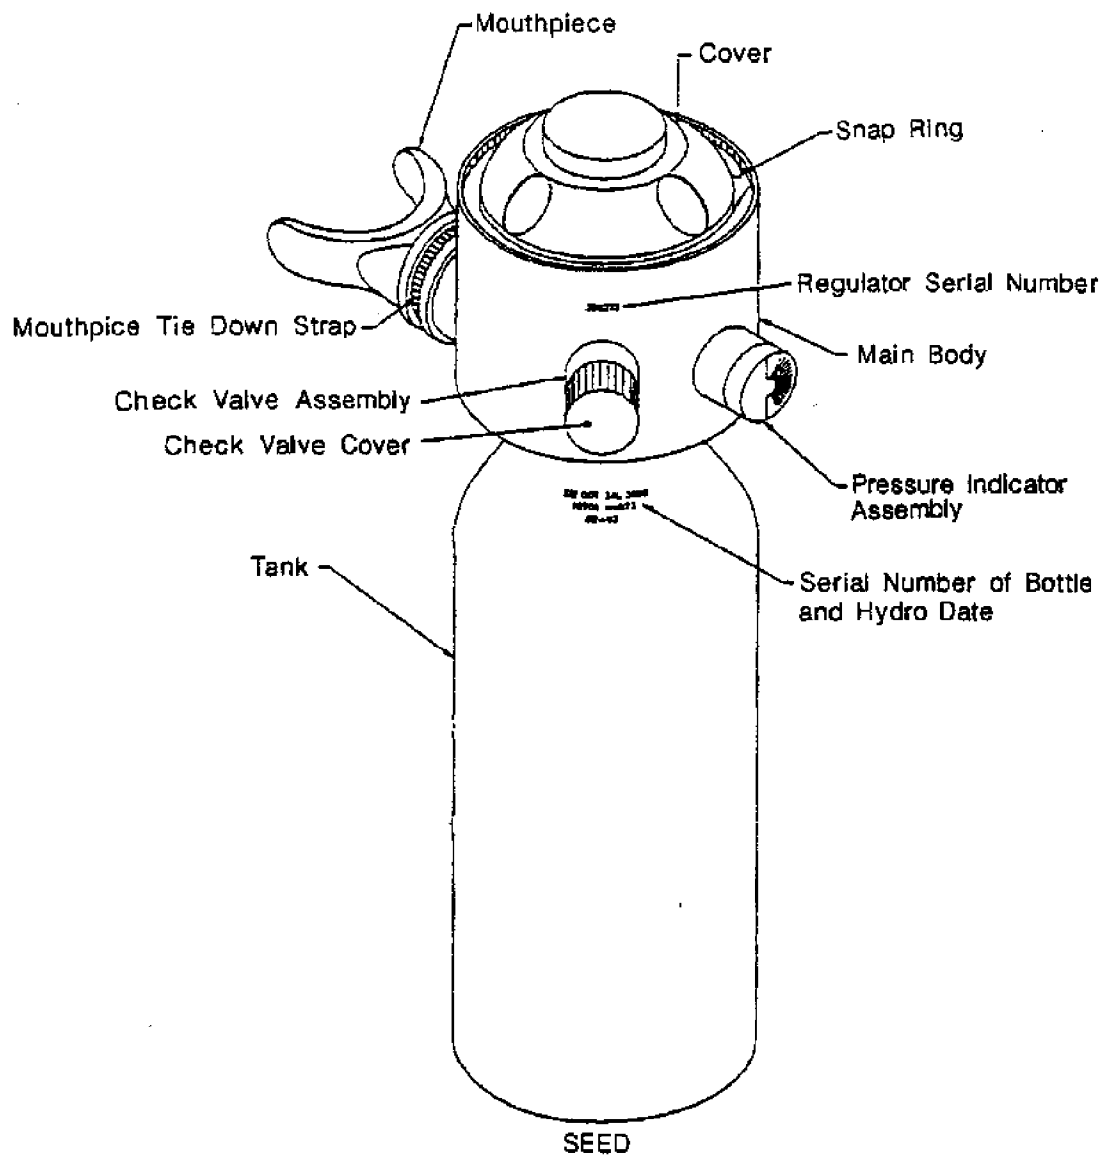

Figure 077-3-8. Supplementary Emergency Egress Device (SEED) Without Mouthpiece Cover
077-3.4.2 DESCRIPTION. The SEED, which is stowed in a holster and worn on the belt, allows for rapid donning. The SEED weighs 1.3 pounds, is 8.75 inches long by 2.25 inches in diameter, and holds 1.7 standard cubic feet of air at 3000 pounds per square inch (psi). It provides one and a half to three minutes of air depending on the user's respiration rate and volume. A pressure indicator on the side of the regulator has a green area that highlights the operating pressure range, 2600 psi to 3000 psi. If the pressure of the device drops below the green highlighted area (below 2600 psi) at 70°F or higher, the SEED must be removed from service and refilled. The device, after being filled to 3000 psig, is designed to remain above its minimum operating pressure for at least one year. The SEED has a single-stage regulator which is always pressurized and ready for use. The mouthpiece is protected by a removable cover which is attached to the SEED holster with a lanyard. The lanyard pulls the mouthpiece cover from the mouthpiece when the SEED is removed from the holster. Figure 077-3-8 illustrates the SEED without the mouthpiece cover in place. The SEED's were delivered with tamper seals; however, the requirement for a tamper seal has been eliminated.
- b. The serial number and an identifying symbol or letters appear next, see Figure 077-3-8.